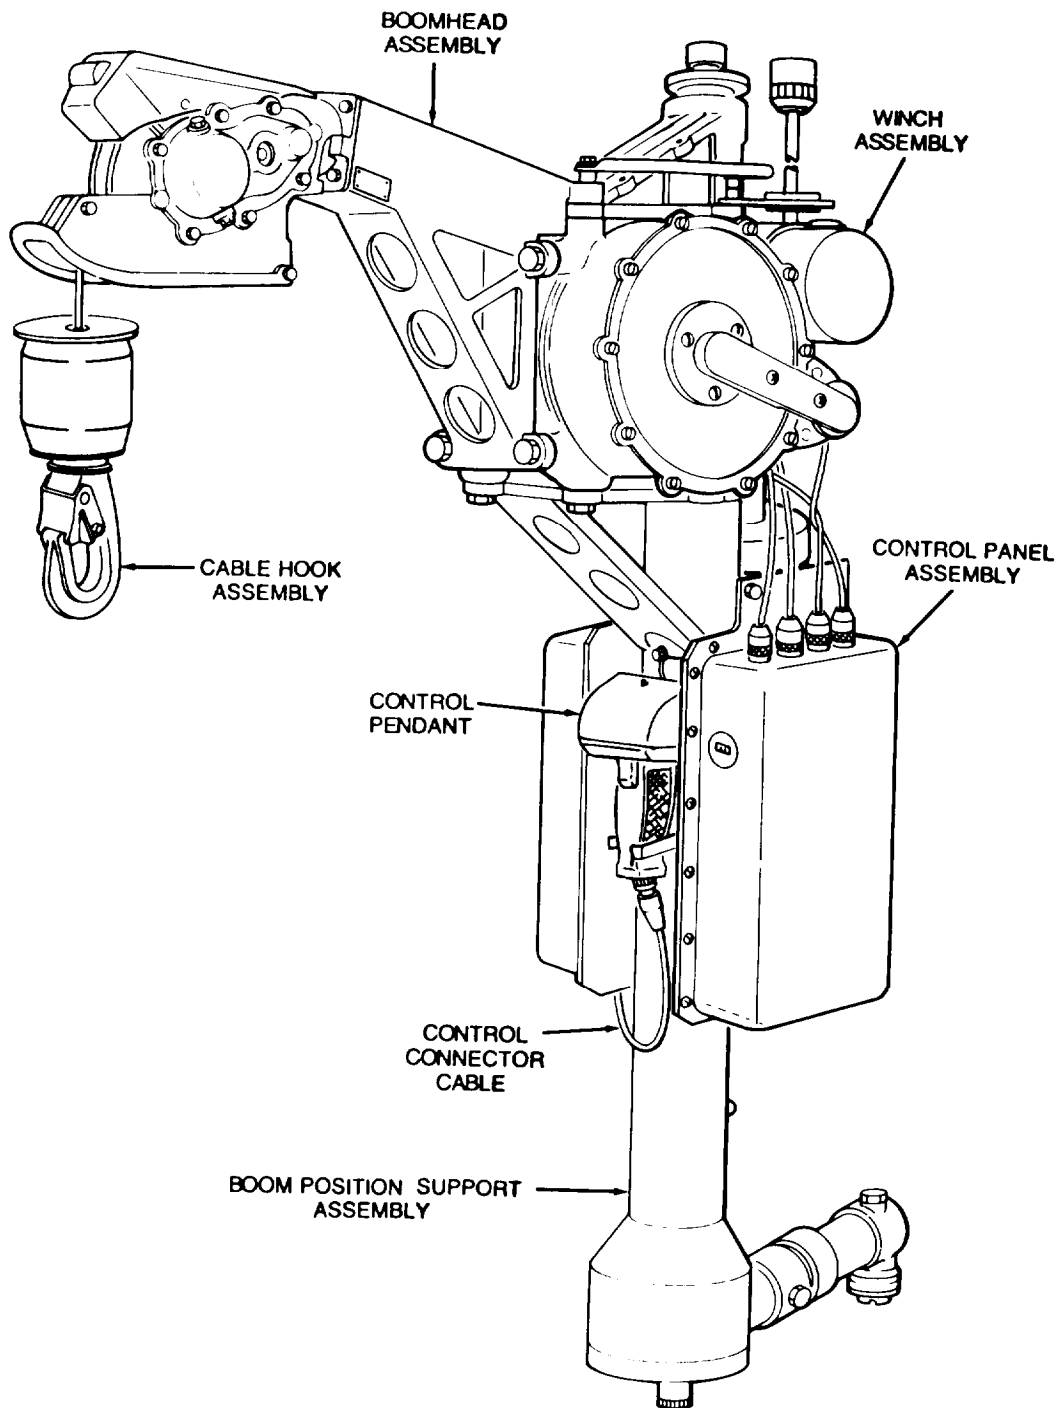

Figure 1-2. Rescue Hoist Assembly
**1-10. Rescue Hoist Assembly.** The Rescue hoist assembly (Figure 1-2) is intended for installation on all UH1 Series helicopters. The hoist is an electronically powered unit consisting of five major assemblies; winch assembly, boom head assembly, boom position support assembly, control panel assembly, and control pendant assembly. The hoist has a 260 foot (792.5 dm) cable and 600 pound (272.4 kg) rated load. Lift speed at rated load is 125 feet (381 dm) per minute (250 feet (762 dm) per minute at 300 pound (136.2 kg) load). The hoist uses aircraft power, and can be operated by one man.